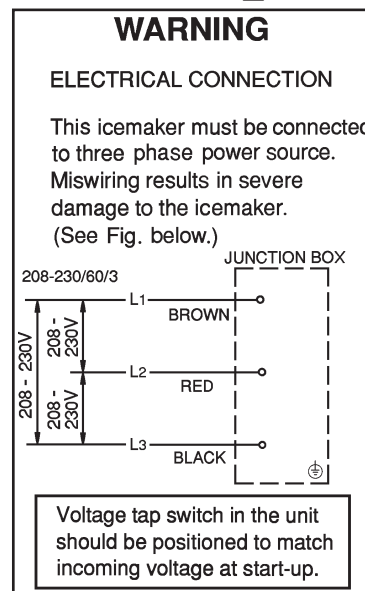

Fig. 8b
- On three phase models, the transformer's voltage tap switch should be positioned to match incoming voltage at startup. See Fig. 8b.